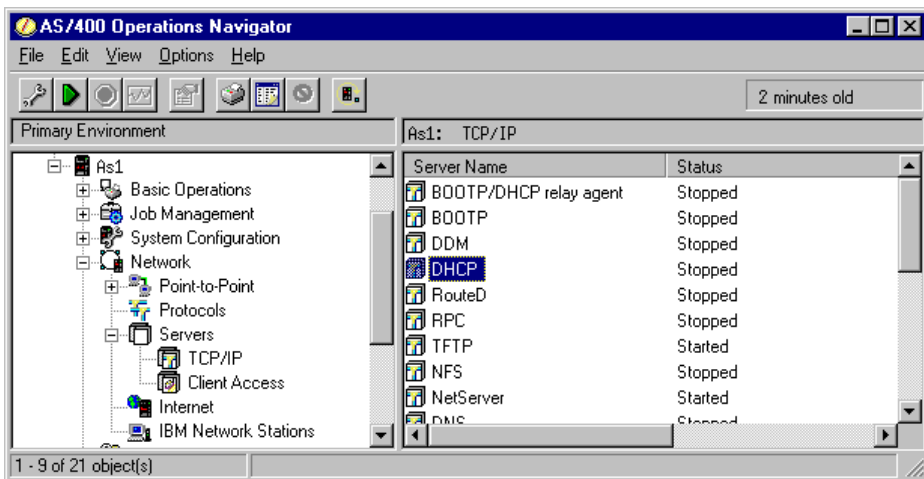

Figure 69. AS/400 Operations Navigator - Selecting TCP/IP Servers
5. Double click **TCP/IP**. The display Figure 69 is shown.